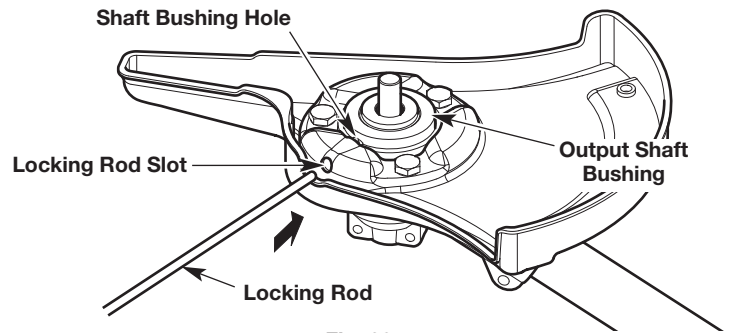
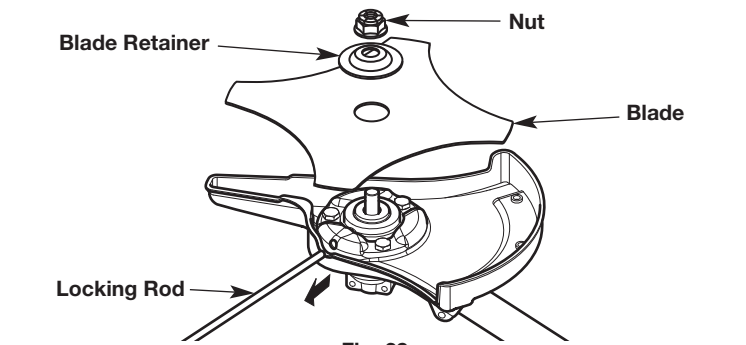

Fig. 26
Fig. 28
1. Rotate the blade (Fig. 28) until the shaft bushing hole aligns with the locking rod slot (Fig. 26).
2. Insert the locking rod through the locking rod slot and into the shaft bushing hole (Fig. 26).
5. Remove the locking rod (Fig. 28).
6. Remove the blade retainer and blade (Fig. 28).
1. Rotate the output shaft bushing until the shaft bushing hole aligns with the locking rod slot (Fig. 26).